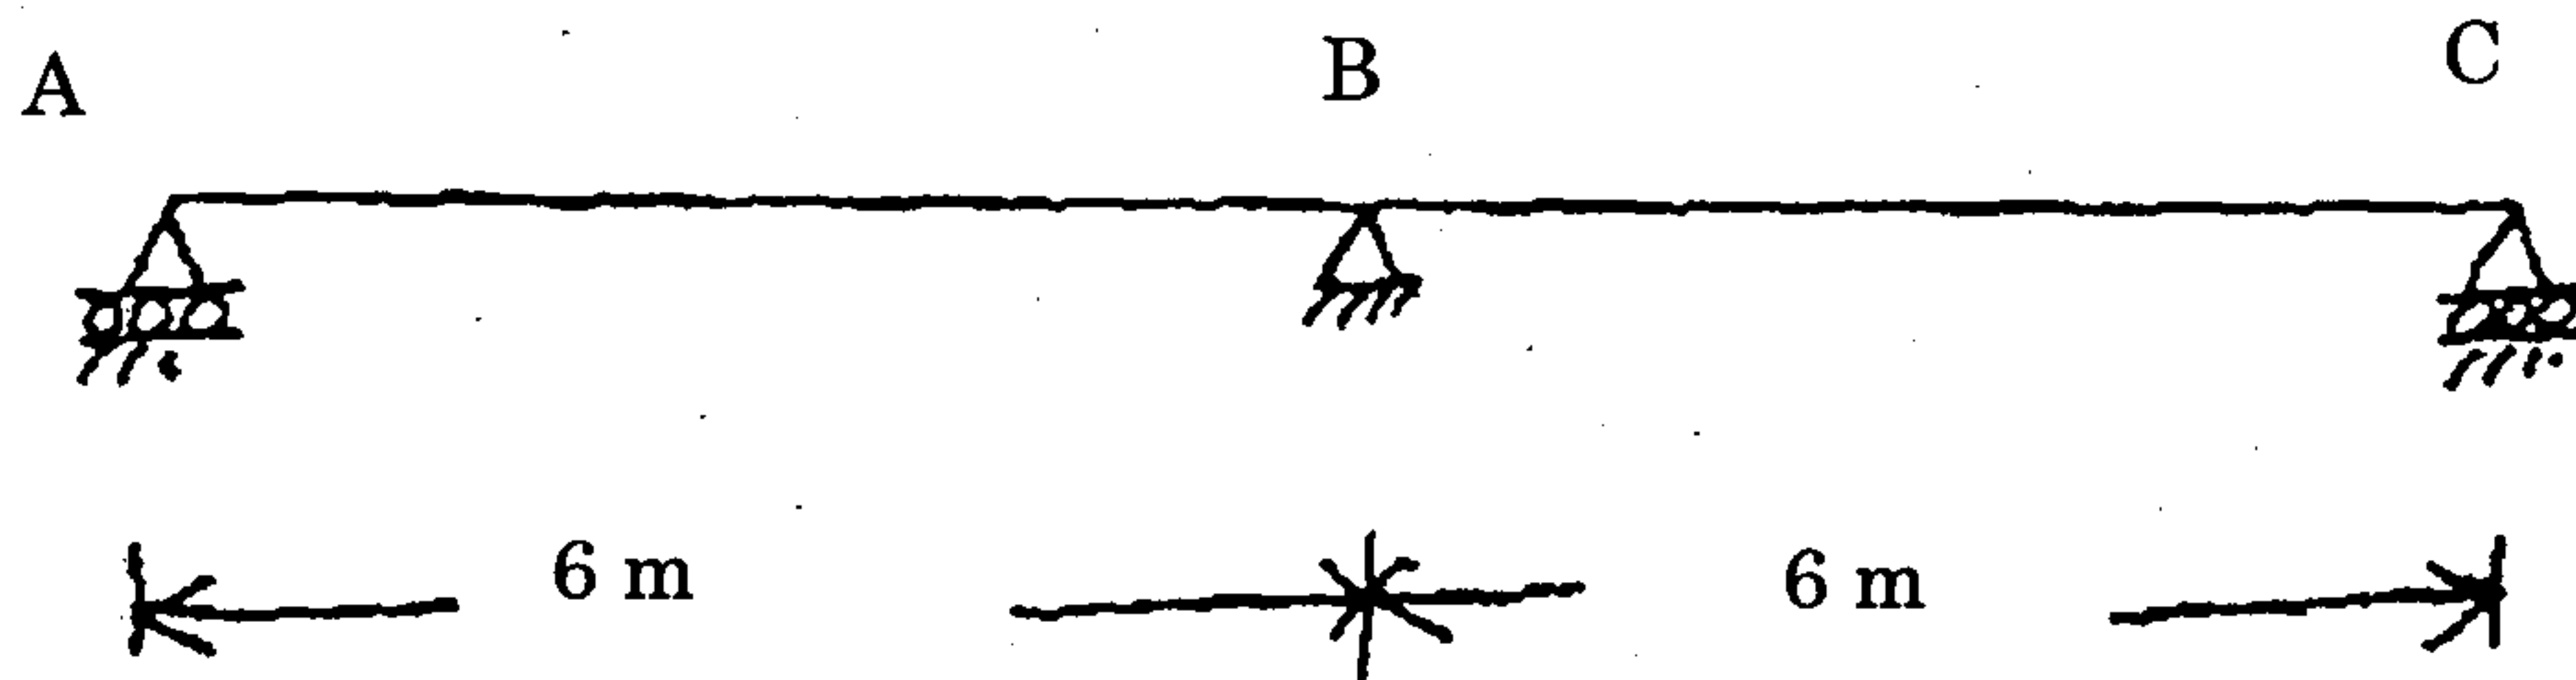

Fig. Q 12 (b)
- (b) Determine the influence line for  $R_A$ , for the continuous beam shown in Fig Q. 12 (b). Compute the ordinates at every 1 m interval.